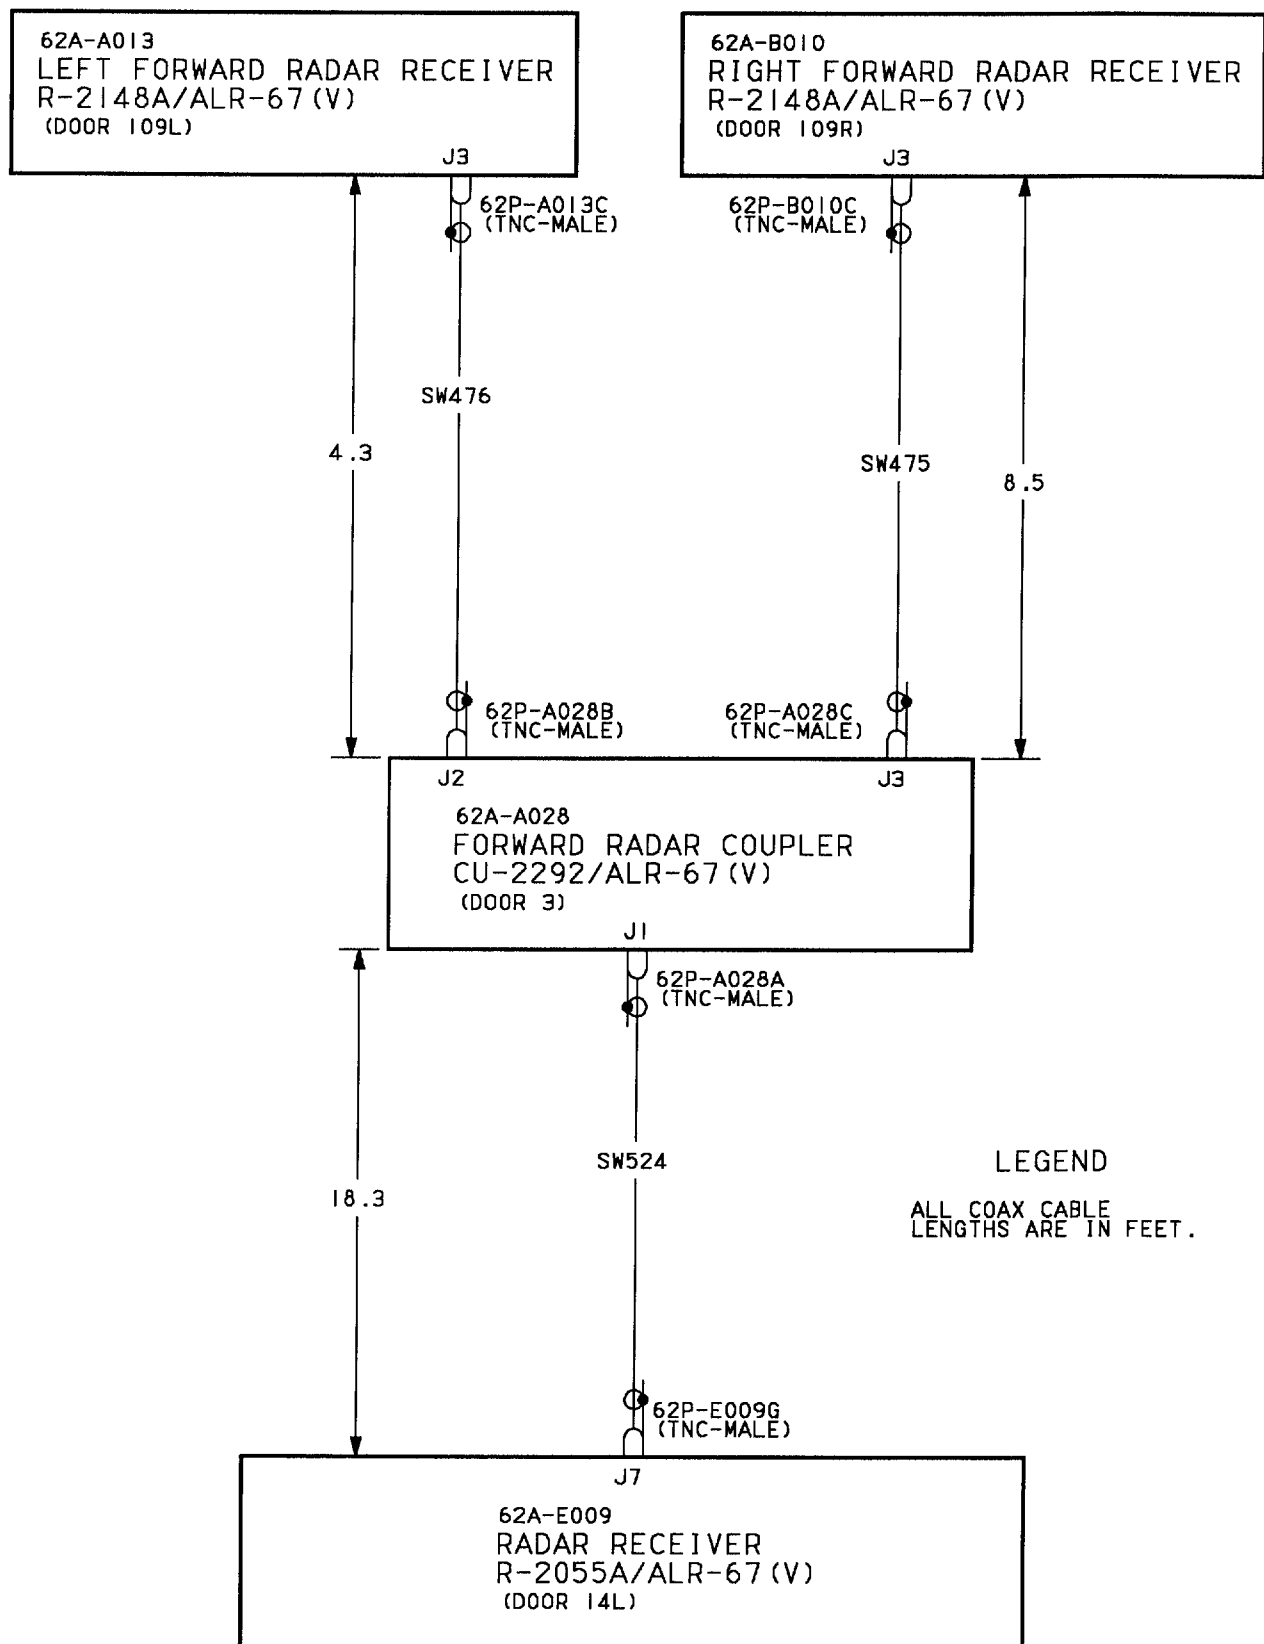

Figure 1. Forward Local Oscillator RF Circuit
(1) Remove 20MM gun (A1-F18AC-750-300, WP003 00).
(2) Remove lockwire and disconnect 62P-A0208C (green) from J3 on forward Radar Coupler CU-2292/ALR-67(V).
(3) Use figure 1 for length and do Fault Location (WP020 00) on ALR-67 Coax Cable SW475.
(4) Did unit under test indicate a fault? .....	b	c
Forward Local Oscillator Circuit, Figure 1, must be used with this procedure.
(3) Use figure 1 for length and do Fault Location (WP020 00) on ALR-67 Coax Cable SW476.